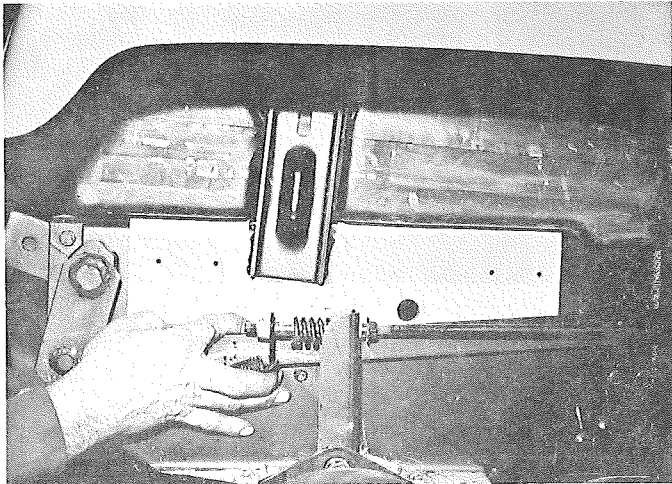
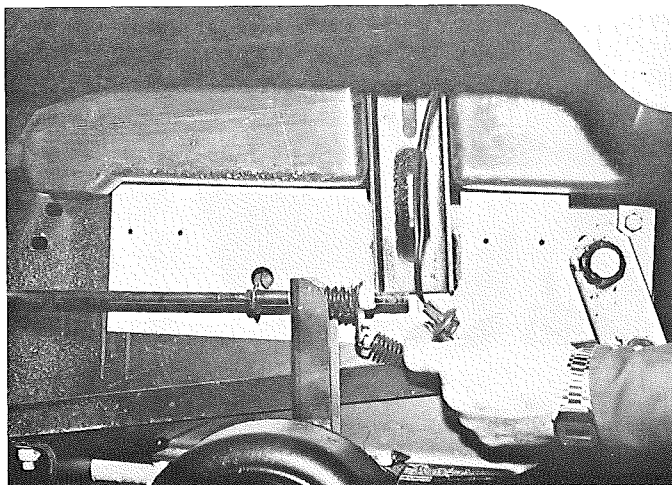

Figure 1
Figure 2
- Use template sent with mounting kit for locating mount holes in side frame of tractor. Line up $13/16$ " diameter hole in template over hole in tractor frame. Top edge of template should be flush with top edge of tractor frame. Fig. 1 and Fig. 2. Then center punch four holes
in the template and drill four $17/32$ " diameter holes through frame. Use same procedure for opposite side. Fig. 1 shows the 420 template which has a blank size of $3\frac{3}{4}$ " x $15\frac{1}{4}$ " and the 318 template is 5" x $15\frac{1}{4}$ ". Fig. 2.